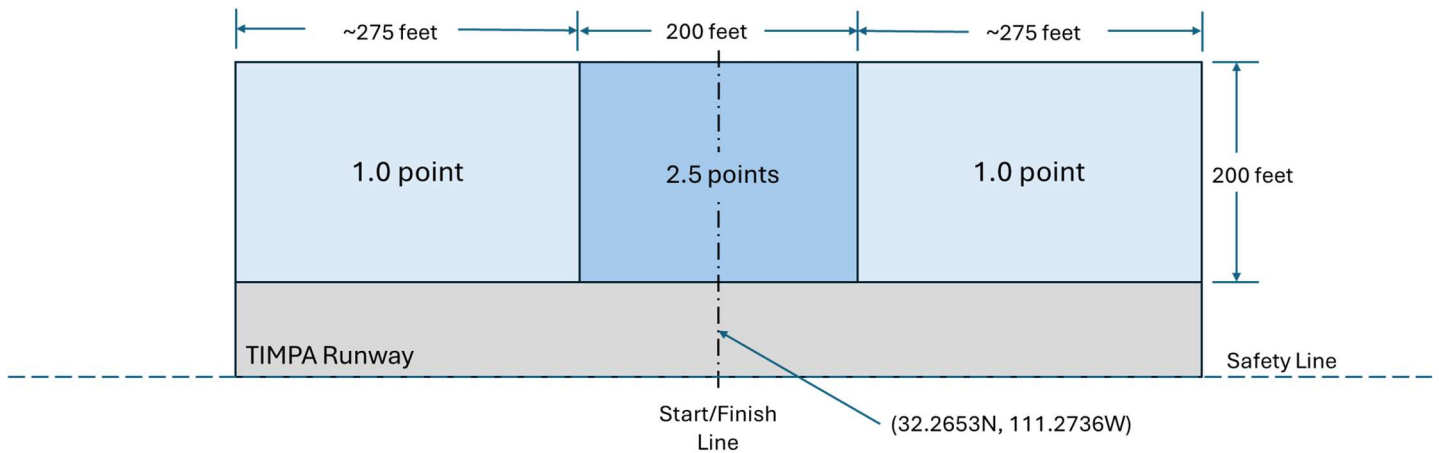

Figure 1. X-1 Test Vehicle Bonus Box Layout.
- To achieve bonus points for Mission 3, the X-1 test vehicle must transition to stable flight after release from the airplane, execute a 180 degree turn and then fly a descending pattern or orbit of the teams choosing until landing on the ground. The bonus points will be based on coming to rest inside one of the bonus boxes as shown in Figure 1. If the X-1 test vehicle lands outside of the bonus boxes, no bonus points will be awarded.